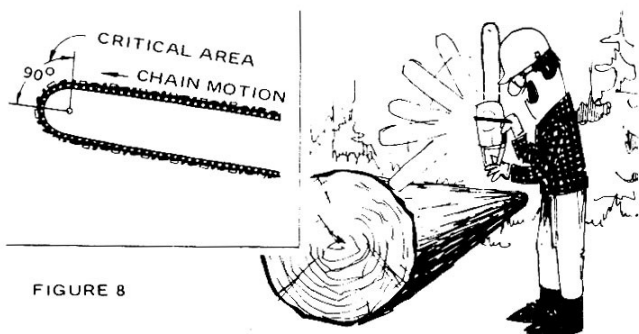

FIGURE 8
19. Guard against kickback! Kickback is the violent backward or upward motion of the chain saw which occurs when the nose of the guide bar accidentally becomes pinched or contacts an object - especially if contact occurs within the critical area shown in the inset of Figure 8. Kickback can lead to sudden, unexpected loss of control of the chain saw resulting in a safety hazard to you, the operator, See Figure 8.
Hold the chain saw firmly with both hands. Do not overreach or cut above shoulder height. Both practices allow for the situation described in item 19, resulting in kickback. Do not let the nose of the guide bar contact a log, branch or other object in the critical area depicted in Figure 8 inset. Cut at higher chain speeds. Follow the manufacturer's recommended chain sharpening and maintenance instructions, as improper sharpening procedures can increase the possibility of kickback (See Section 13 - Chain Maintenance). Do not stand directly behind the saw when bucking. Learn to stand to one side, out of the path of an unexpected kickback.